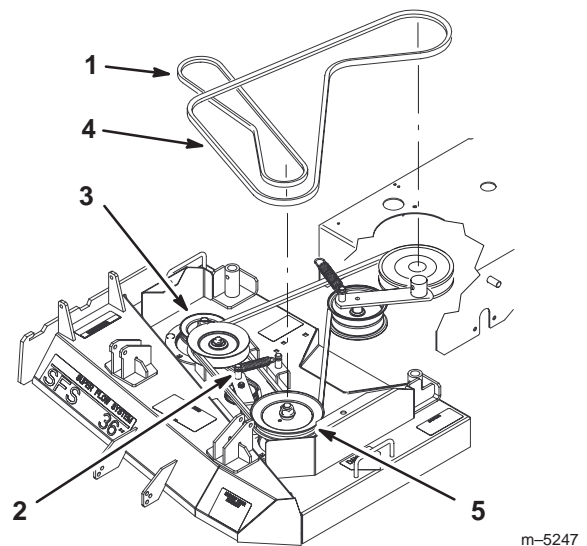

Figure 63
6. Disconnect the idler arm spring to relieve tension on the idler arm and idler pulley, then remove the worn mower belt (Fig. 63).
7. Install the new mower belt around the outward spindle pulley, the idler pulley, and in the lower groove of the double spindle pulley (Fig. 63).
8. Reconnect the idler arm spring (Fig. 63).